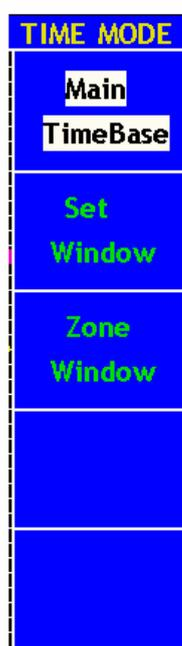

Fig.26 Time Base Mode Menu
3. **HORIZONTAL MENU** button: with this button pushed down, the screen shows the operating menu (see Fig.26).